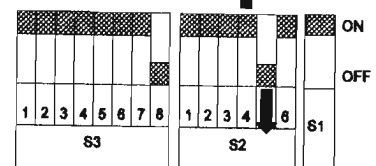

Figure 7
d) Set switch WK4 S2-4 to "ON" position (white compression curve 1) (see Figure 7).